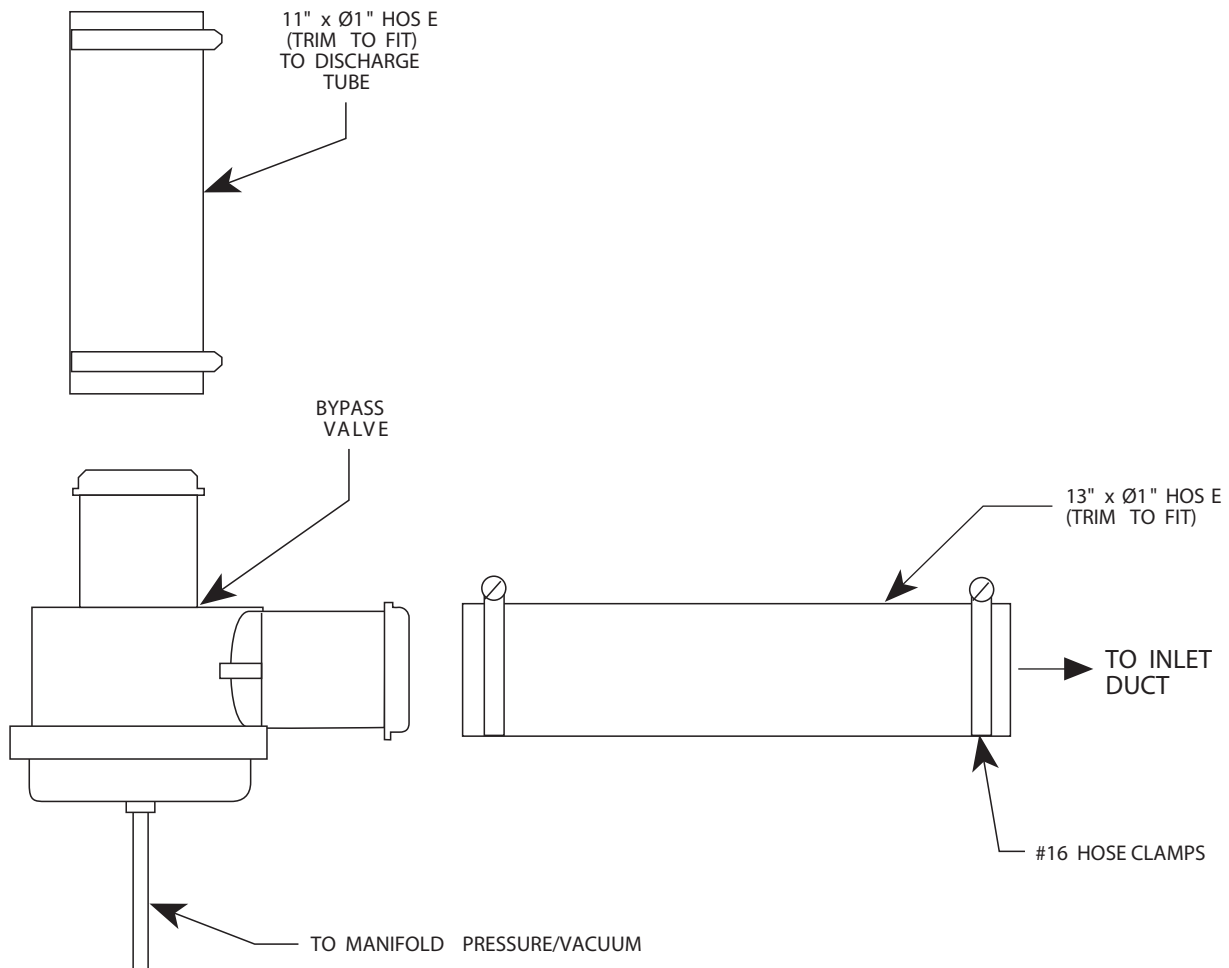

Fig. 8I
3. Secure the 13" piece to the outlet of the valve, securing it with a clamp. (See Fig. 8I.)
5. Secure the two lengths of 1" hose cut to 16" and 17.5" to the two outlets on the bypass "Y" with #16 hose clamps (See Figure 8I-a for orientation).